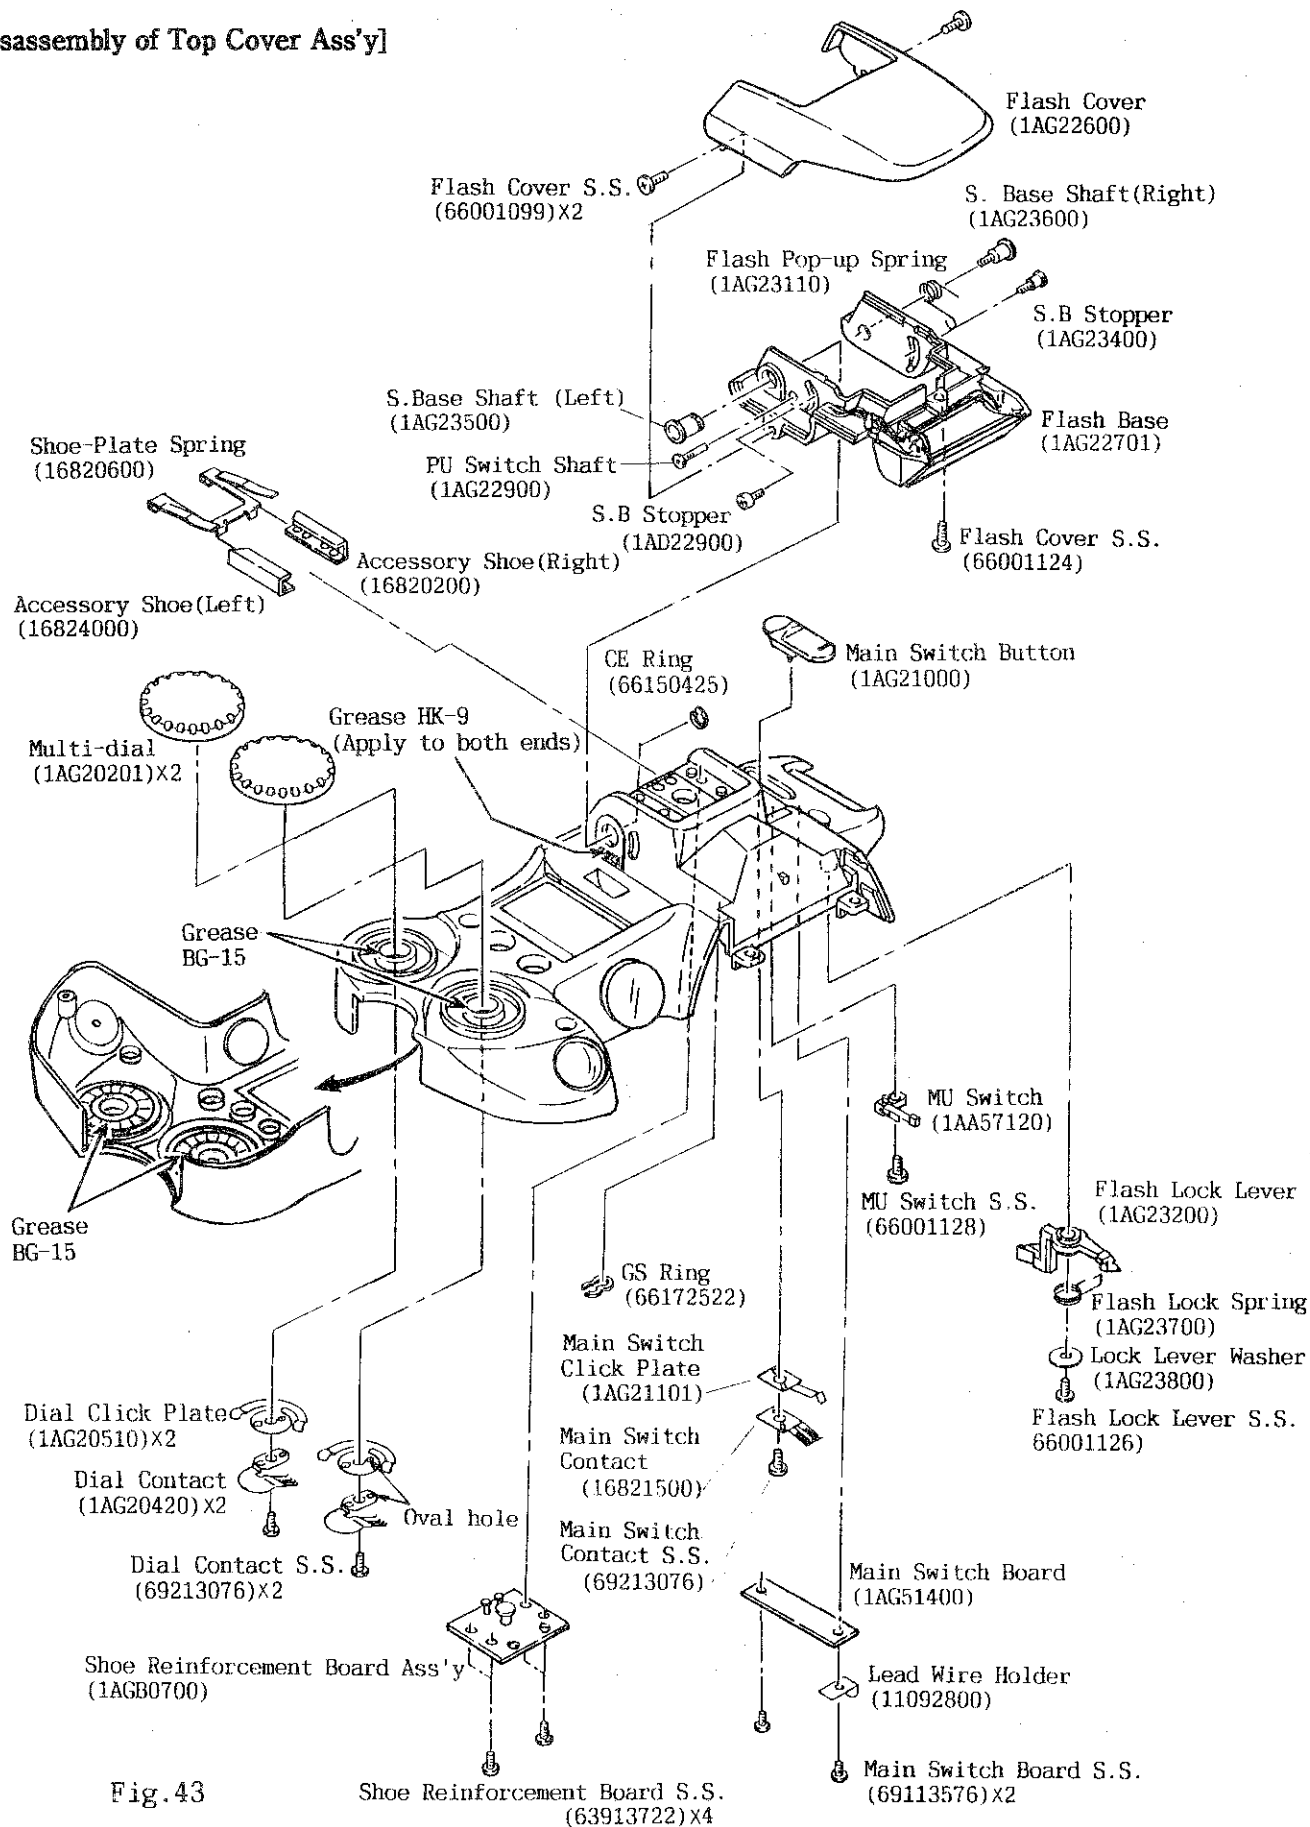

Fig.43
- a) Fit the pins of each Multi - dial in the two pairs of holes in the Dial Click Plate and Dial Contact. In doing so, align the oval hole in the Dial Click Plate with that of the Dial Contact. (See Fig.43)